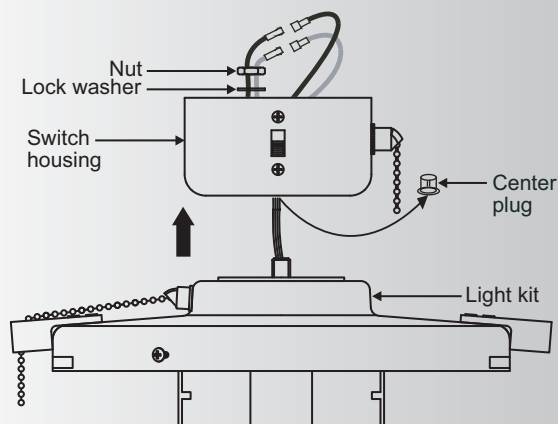

Fig. 16
Step 3. Be sure it is tight enough to prevent light kit from vibrating loose. (Fig. 16)